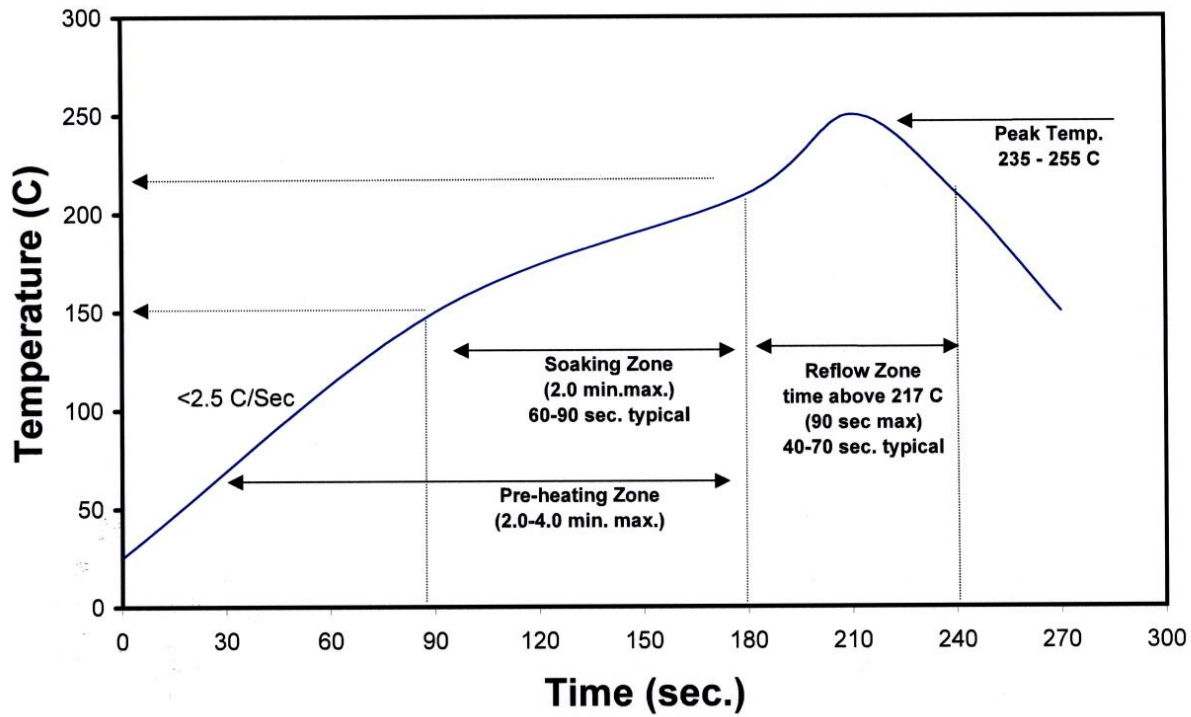

Figure 3: Reflow soldering profile for lead free soldering
- Solder conditions per JEDEC 020c. See Reflow Soldering Profile Figure 3.